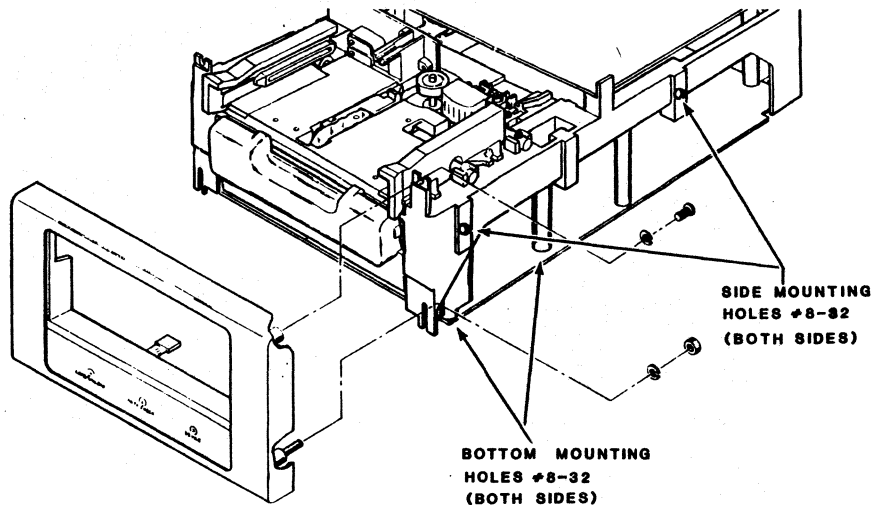

Figure 2. Bezel Installation
Attach the bezel assembly to the device as follows: (See Figure 2)
2. Locate bezel to the front of the device by sliding the two lower mounting studs into slots on the device (see Figure 2). Position the bezel up against the underside of the tape cartridge guides.
Mounting holes are provided (Figure 2) on the side and bottom of the device to accommodate either horizontal or vertical mounting. Mounting with drawer-type slides is suggested to provide easy access for operator maintenance.